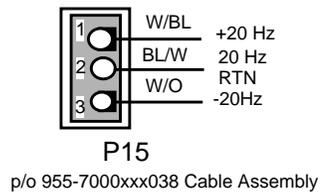

Figure 1-3. **Test Head Ringing Wiring P15**
- Step 3:* Connect the leads in accordance with the associated figures for the P15 connector of the 955-7000xxx038 cable (See Figure 1-3) at the ringing supply or an assigned fuse position for the test head.